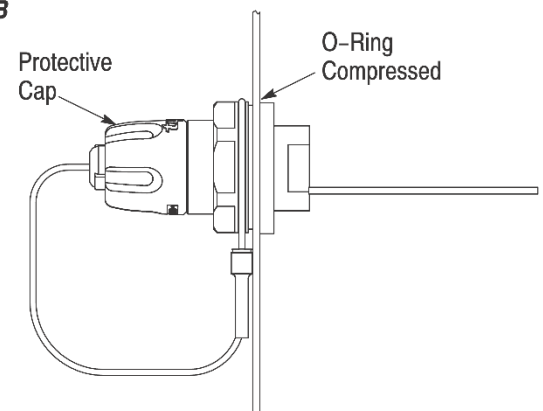

Figure 12
2. Install the connector through the back of the panel so that the O-ring on the shoulder of the D-hole housing is flat against the panel. See Figure 12, Detail A.
3. Thread the panel nut onto the D-hole housing. See Figure 12, Detail A. Tighten the panel nut to a torque of approximately 40 N·m. When the panel nut is secure, the O-ring should be compressed.
4. Thread the protective cap onto the housing, then hand-tighten the protective cap as shown in Figure 12, Detail B.